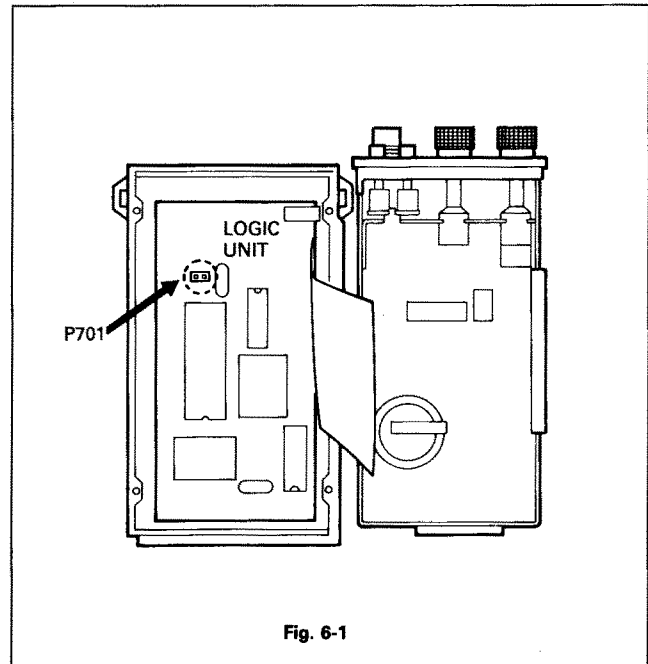

Fig. 6-1
- 2) Unplug P701 on the LOGIC UNIT. (Fig. 6-1)